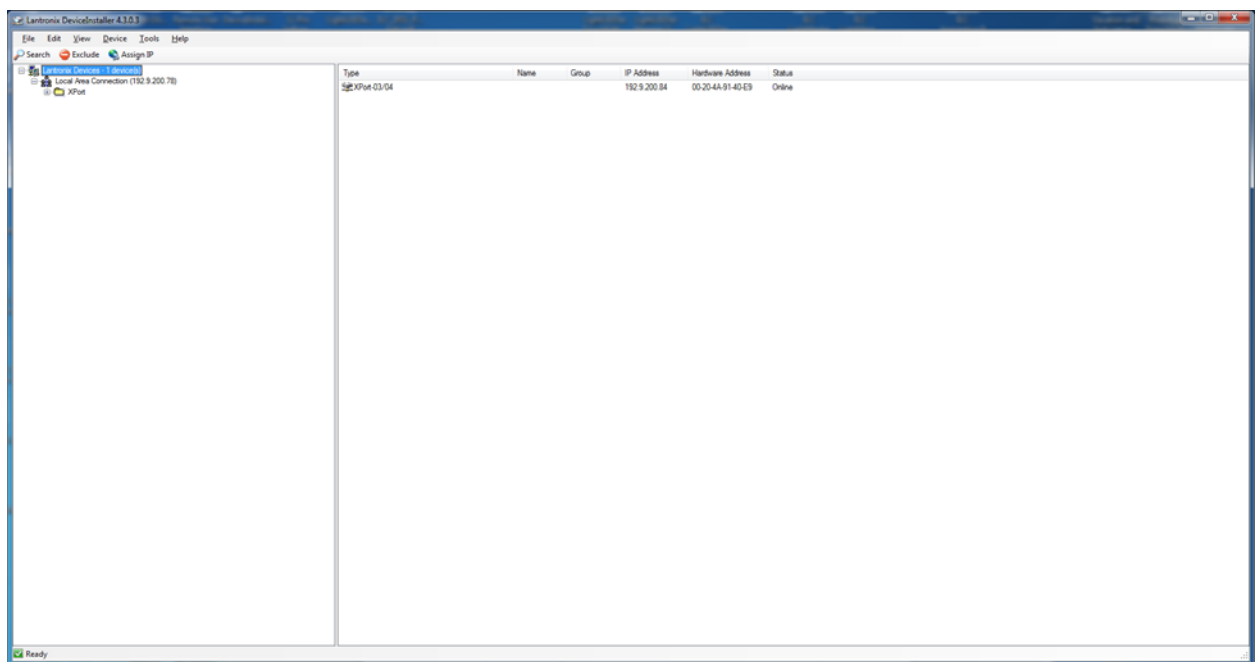

Figure 1
2. Start the program and press the "Search" button in the upper left as shown in figure 1. The software should find the LightLEEDer IP panels devices as shown. The default IP is 192.168.1.24.